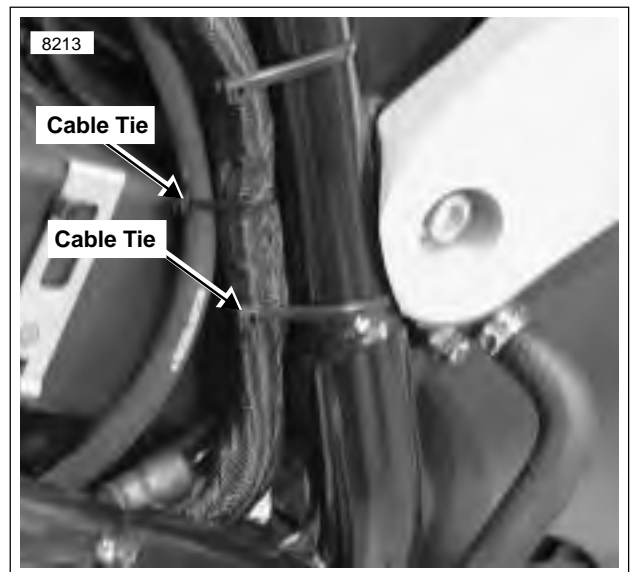

Figure 2-52. Rear Brake Line - Left Side
12. See Figure 2-52. Cut cable tie on wiring harness and cable tie on vent tube on left side of bike.
10. See Figure 2-52. Cable tie vent hose and wire harness to frame on left side of motorcycle. NOTE: Use thick cable tie on wire harness and thin cable tie on vent hose. Use care to avoid pinching hose.